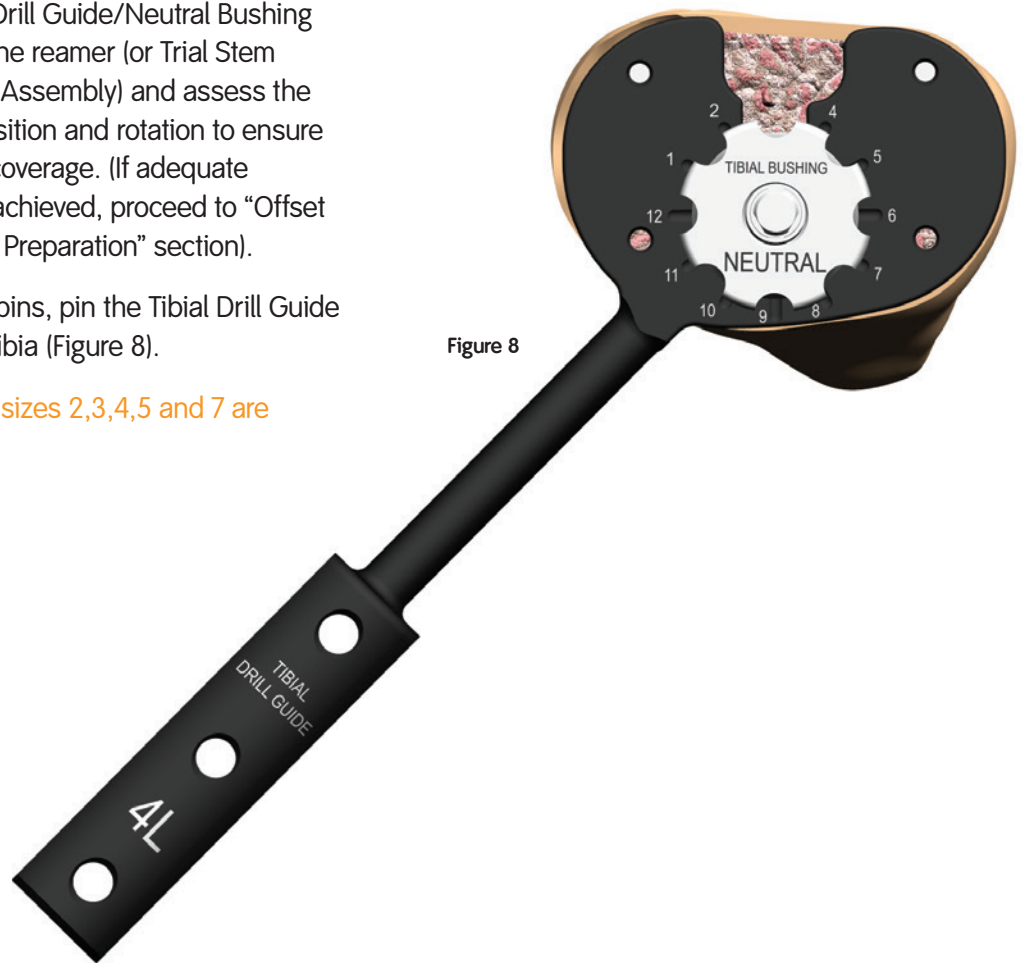

Figure 8
3. Using headless pins, pin the Tibial Drill Guide to the proximal tibia (Figure 8).